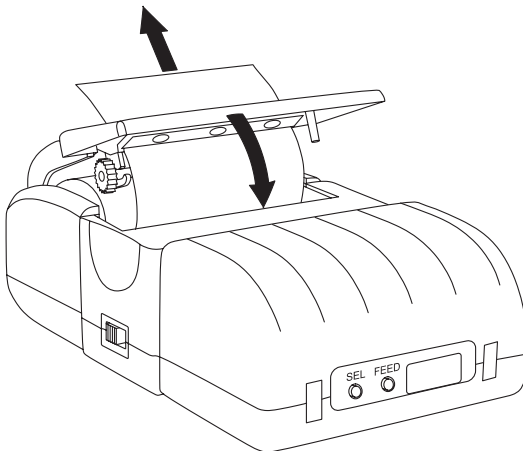

Figure 2. Installing the Paper
From underneath the printer, use your thumb and forefinger to push up on the paper cover until it releases from its latches (see Figure 2.)
3. Drop in a new paper roll so that it will rotate in the direction shown in Figure 2.